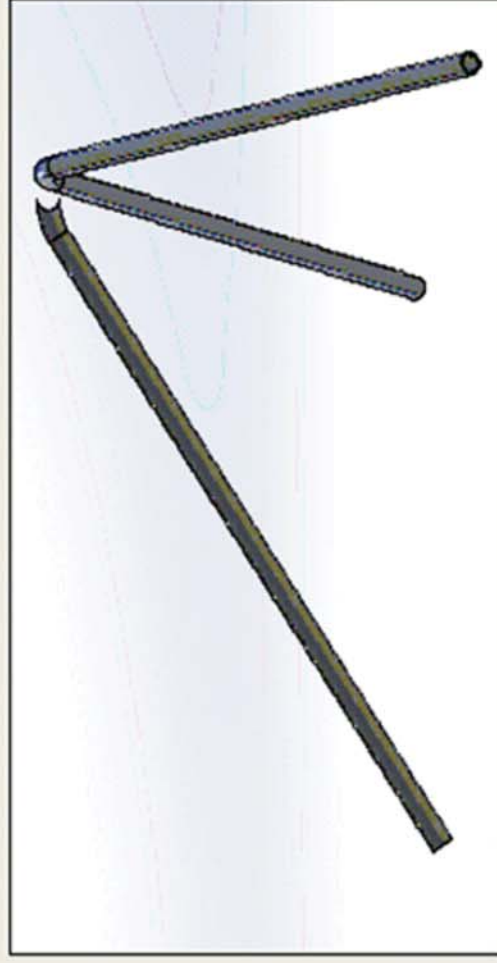

Figure 2: Welding the cut section to a full section
2) Grind one of the halves so that there is an approximate radius to allow for maximum contact when assembling to another peak section as shown in Figure 2.
3) Weld the half of the peak section onto the center of another whole peak section as shown in Figure 2.